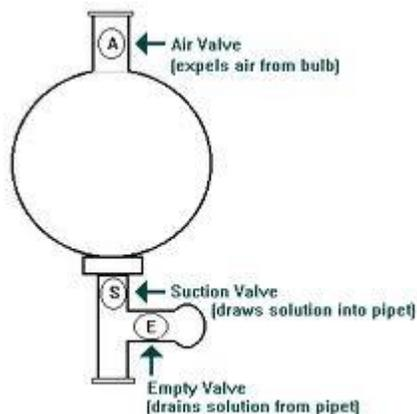

Figure 2.1 The three-valve pipet bulb
1. Hold the tri-valve bulb (see Figure 2.1) upright with left hand.